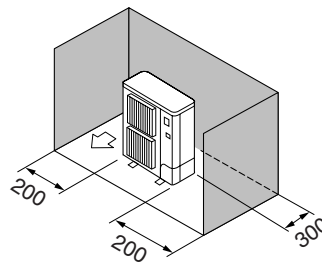

Fig. 3-7
- ③ Obstacles at rear and sides only (Fig. 3-7)